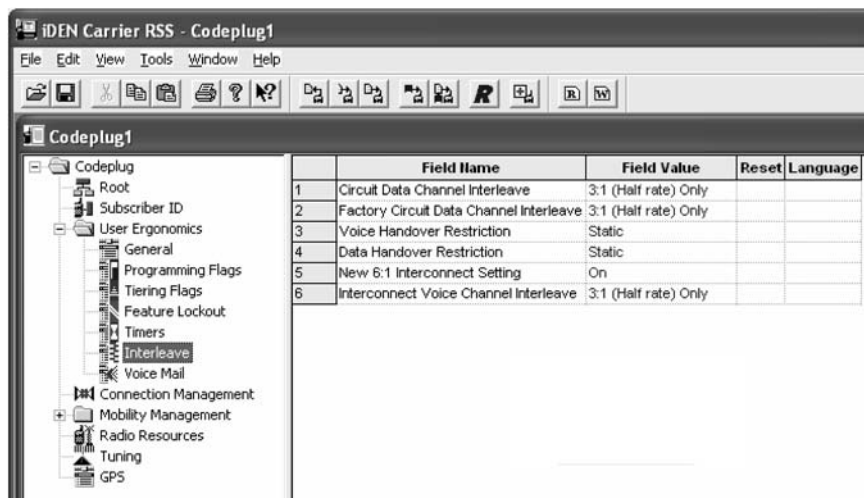

Figure 6-1. User Ergonomic/Interleave Window
- If using the CARRIER version of RSS, can change a unit’s interleave values by accessing the “User Ergonomics” folder and selecting the **Interleave** tab (see Figure 6-1).